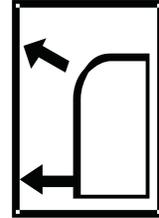

Fig. 22 — Dual Air Flow
2. Make the airflow selection that best suits you. When setting the air flow selection, use the **Dual Air Flow** icon (see Fig. 22).